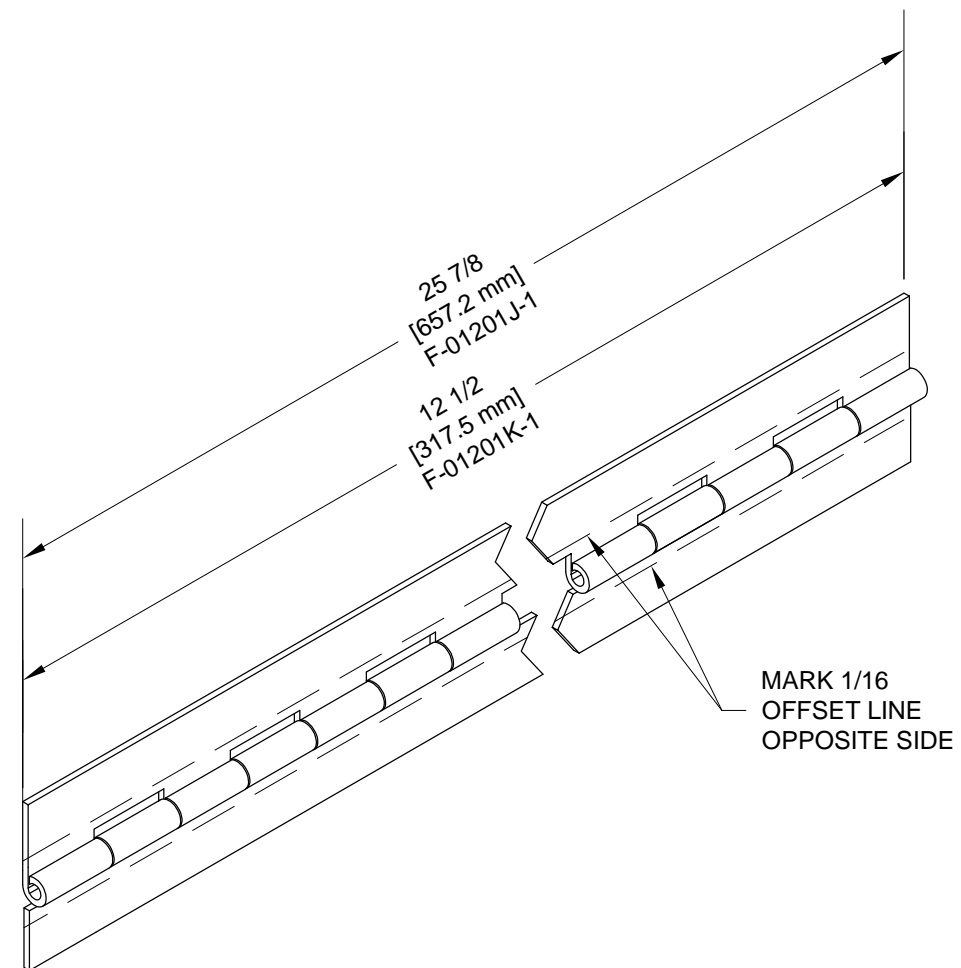

FIGURE 1: UPPER COWL HINGES
Step 1: Make the F-01201J-1 and F-01201K-1 from AN257-P4 piano hinge per the dimensions in Figure 1. Remove the hinge pin before cutting the parts to length.
NOTE: Refer to Figure 1 for all of the steps on this page.